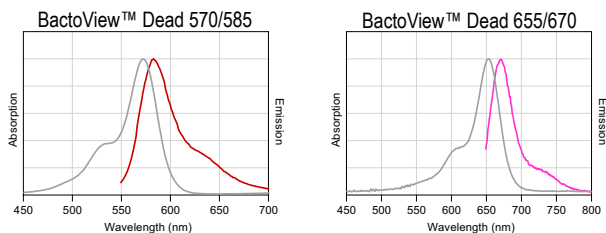

Figure 1. BactoView™ Dead absorbance and emission spectra.
**Spectral Properties:** See below, or Figure 1 (page 2) for dye spectra.